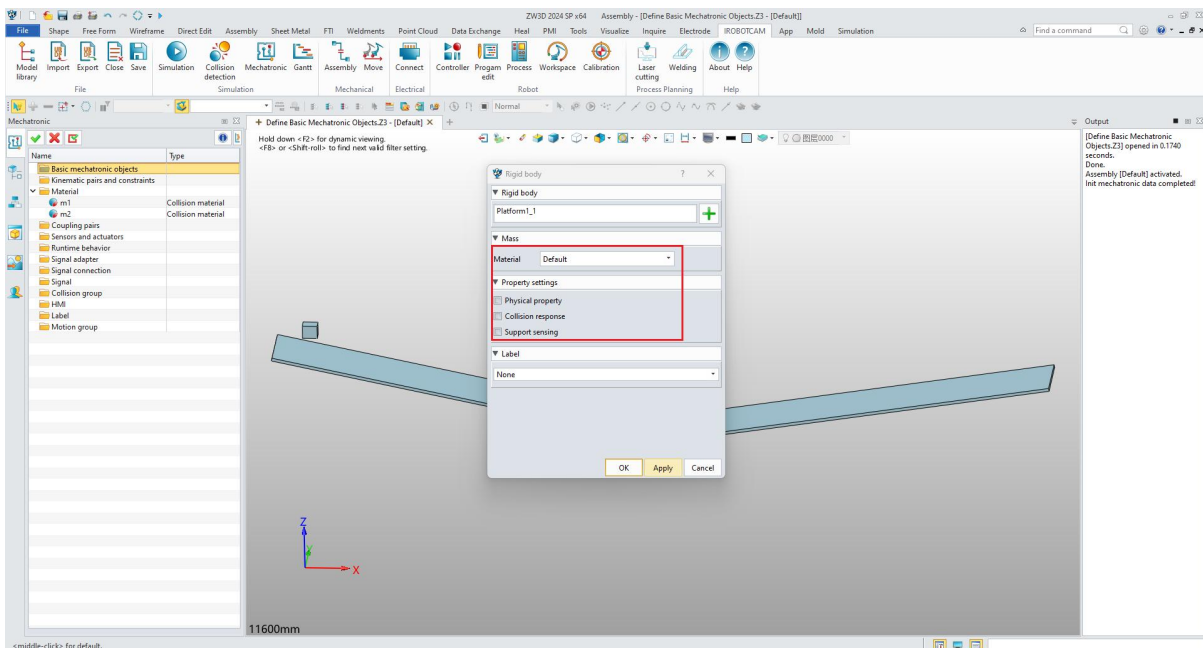

Figure 5-10: Adding an obliquity Rigid Body
- Repeat above steps to add the other slope as a rigid body. (Figure 5-10)